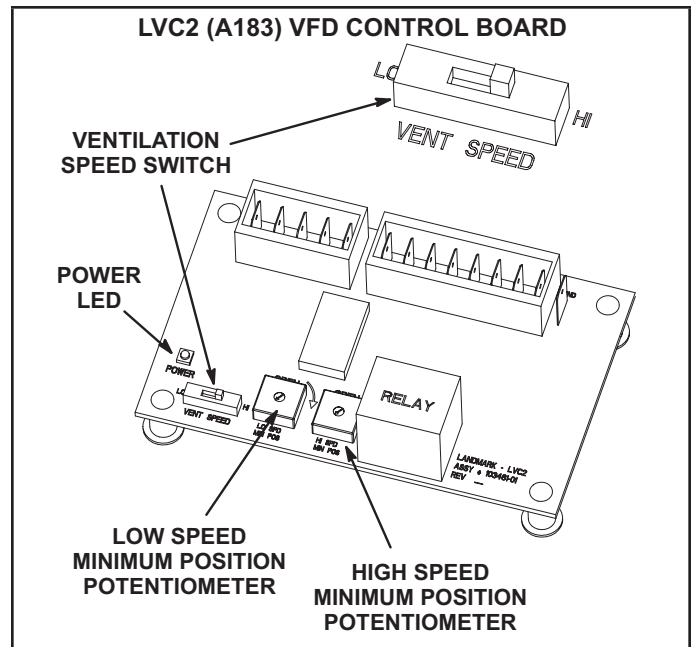

FIGURE 6
To save energy during ventilation, the blower speed can be set to low. This is accomplished by changing the ventilation speed switch on the VFD control board to “LO”. See FIGURE 6.
To maintain required minimum ventilation air volumes when the unit is in the occupied mode, two minimum damper positions must be set. A high and a low speed potentiometer are provided on the VFD control board to adjust minimum damper position. See FIGURE 6. The low speed minimum damper position is used for both low and medium blower speeds as standard economizers only offer 2 damper positions.
- 5 - Check the power LED on the board. See FIGURE 6.
- 8 - When LVC2 24VAC thermostat blower (G) input and 24VDC power are present, check the LVC2 low and high speed outputs. The LVC2 uses inverse logic to enable the blower; 1VDC will be read at the enabled blower speed terminal. See TABLE 2.